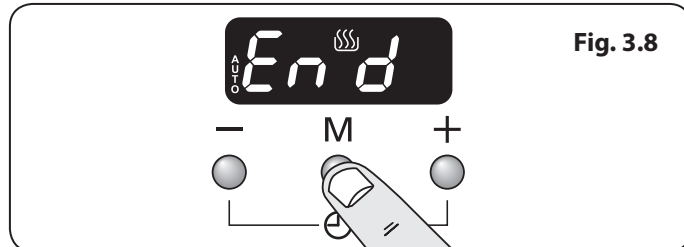
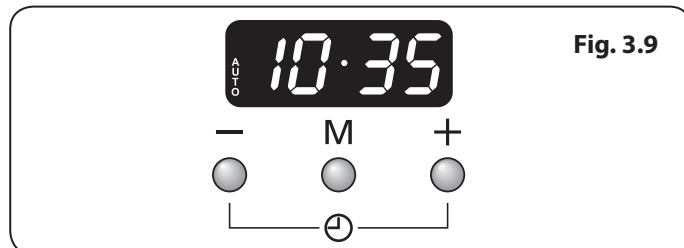

Fig. 3.8
Fig. 3.9
- Press the mode [M] button until the display flashes 'End' (**Fig. 3.8**). Then set the 'stop time' using the [+] or [-] buttons. Current time will be displayed along with the word 'AUTO' (**Fig. 3.9**).